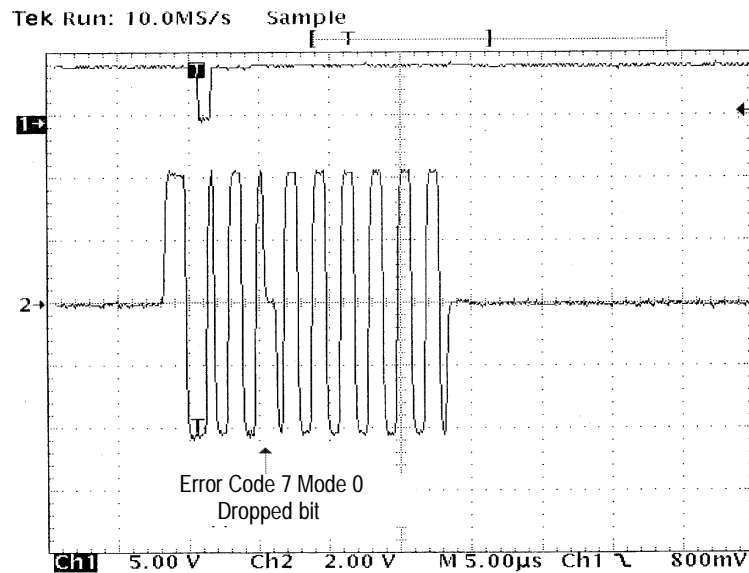

Figure 455-19: Dropped Bit
Dropped Bit Error. Follow the steps below to hold the reference level at 0.0 V for the bit transition time. Release the reference level for the next transition. Refer to Figure 455-19.
3. Verify that a bit has dropped in the same position as Figure 455-19.